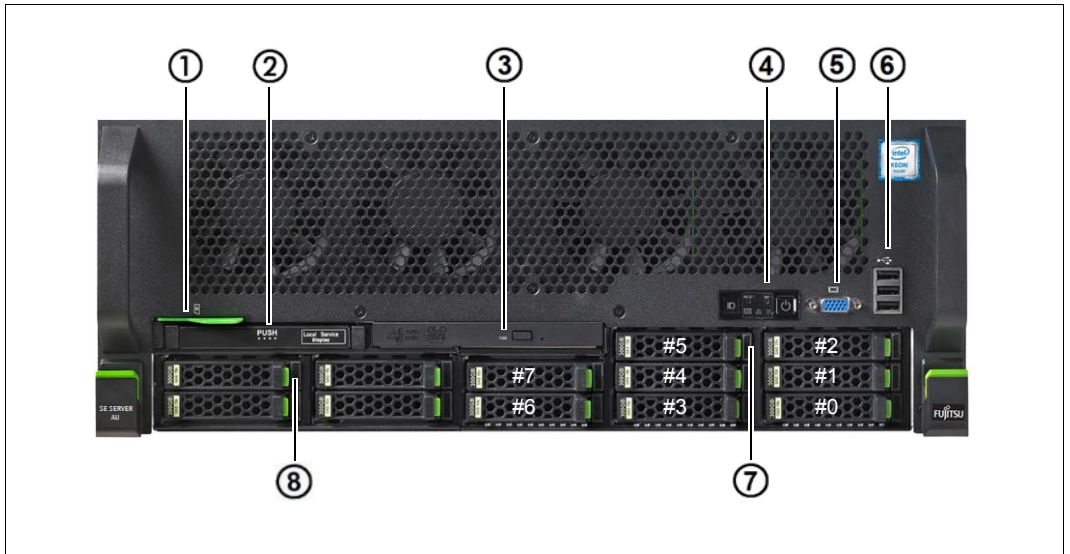

Figure 1: Application Unit (front)
You can pull the ID card (see figure 1 on page 11) out and push it in again as far as it will go.
The MAC addresses entered on the green ID card refer to LAN #1 (SYS1) and #2 (SYS2). The MAC addresses of LAN ports #3 (not used) and #4 (not used) are then the next two MAC addresses in ascending order. The green ID card is located on the front of the Application Unit, see item 1 in figure 1 on page 11.